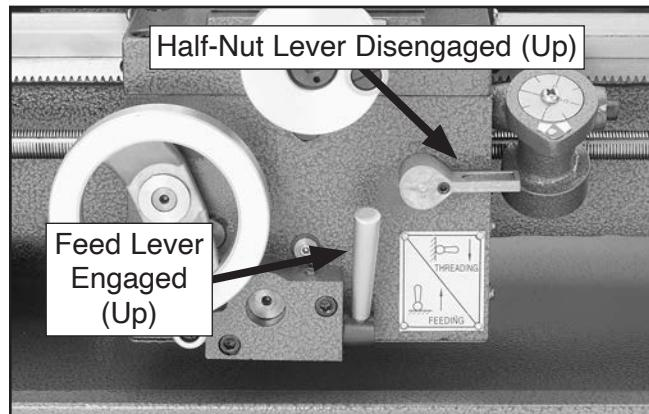

Figure 54. Feed lever in the engaged (up) position.
- Push the feed lever up to engage the carriage gears with the leadscrew (see **Figure 54**).
- Push the half-nut lever up to disengage the half-nut from the leadscrew, as shown in **Figure 54**.